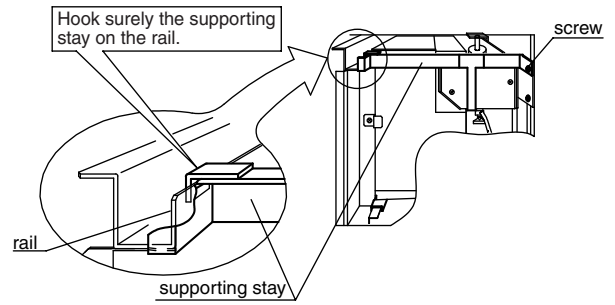

Fig. 8
12. • Confirm that the link of the supporting stay has been hooked securely on the rail and insert it. (Fig.8)
• Refit the supporting stay handling part without contacting the lid of feed water tank. (Fig.8)
• Insert the supporting stay securely and fix it with the screws. (Fig.8)